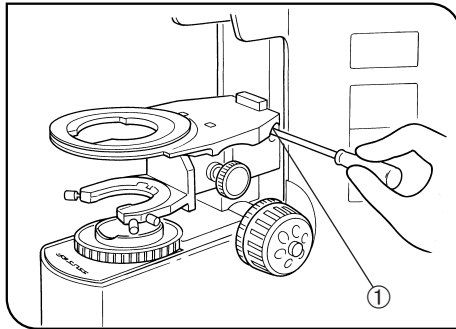

Fig. 15
(Figs. 15 & 16)
2. Using the Allen screwdriver, loosen the substage bracket clamping screw ① and remove the substage assembly. (Fig. 15)